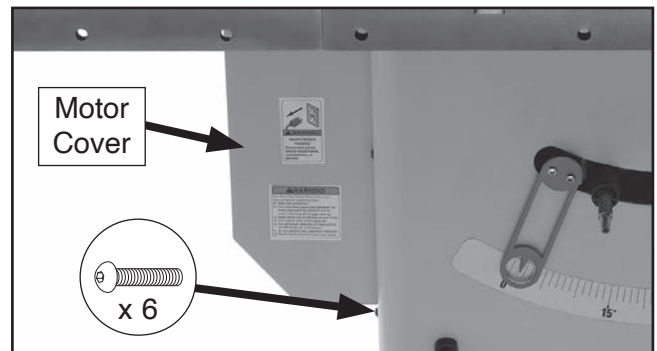

Figure 16. Motor cover installed.
5. Attach motor cover to cabinet using (6) M5-.8 x 10 button head cap screws (see **Figure 16**).